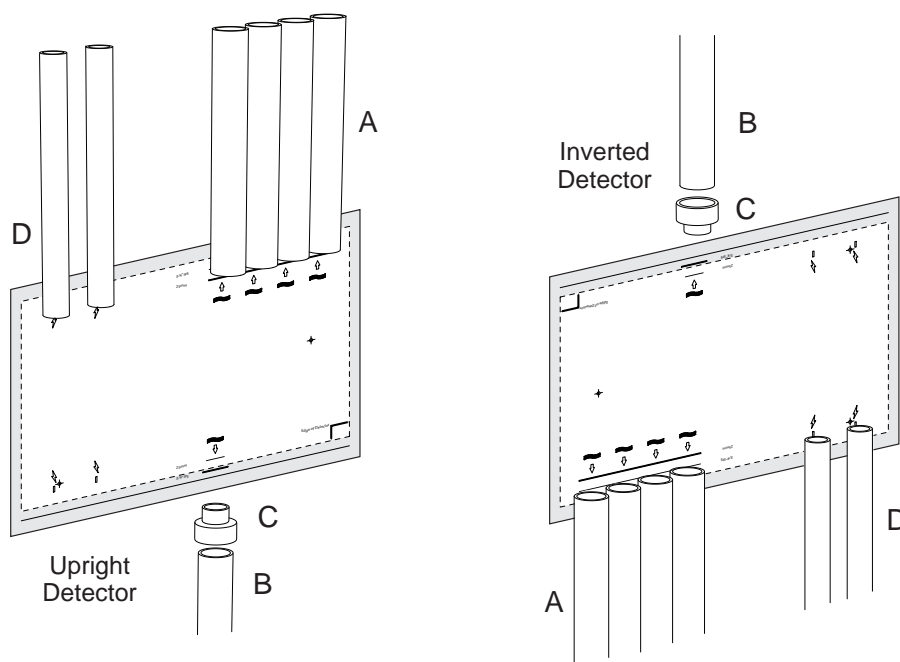

Figure 4-25: Position conduit and pipes
4. Position the inlet pipes (A) on the marked center lines (Figure 4-25).
6. Position the exhaust pipe (if used) (B) on the marked center line:
- For imperial pipes, fit the pipe adaptor (C) and cut the pipe to the outer depth line marked on the mounting template.
7. Position electrical conduit (D) on the marked center lines.